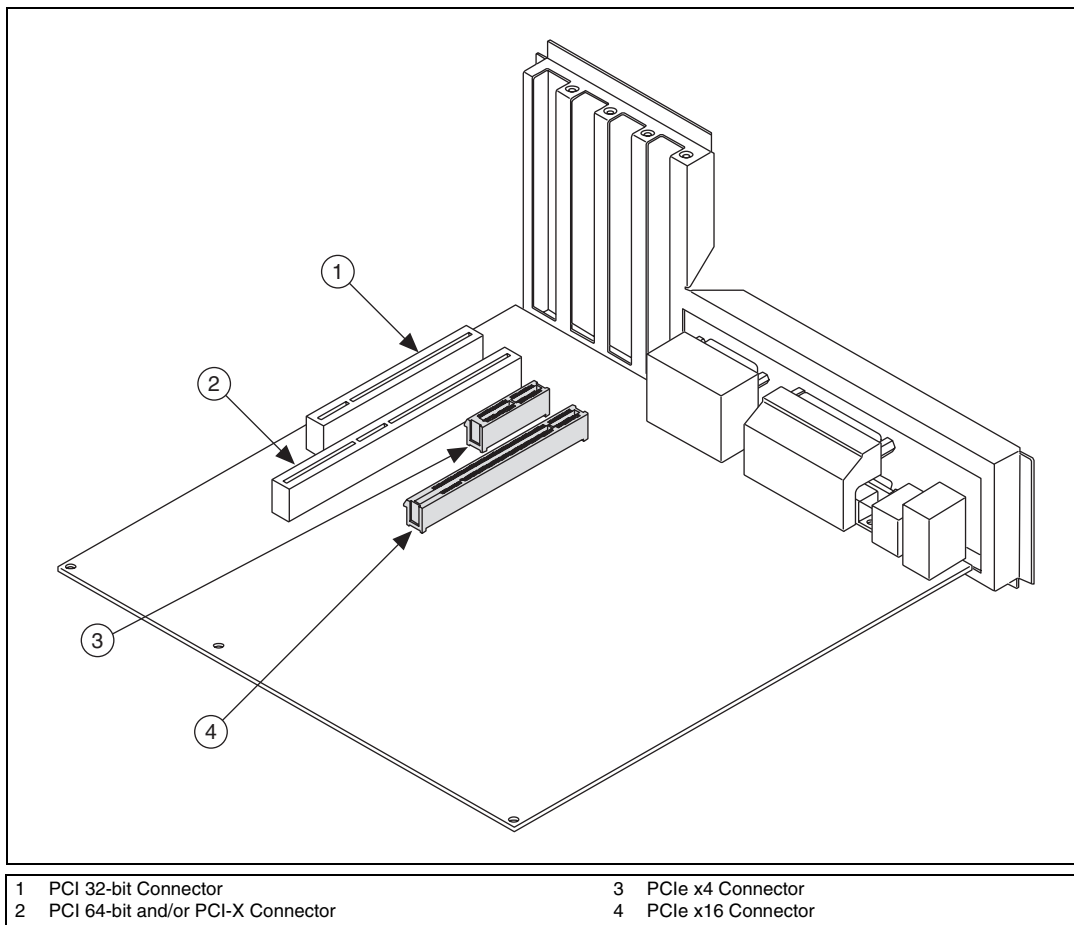

Figure 1. PC Expansion Slots
5. Choose an unused x4 or larger PCIe slot, and remove the corresponding expansion slot cover on the back panel of the computer. Figure 1 shows the different types of expansion slots available on most computers.